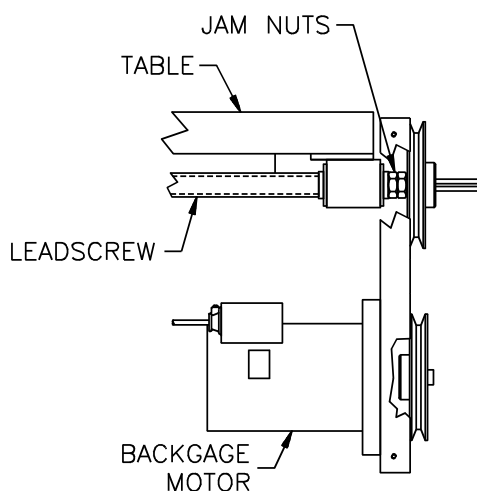

Figure 27 – Jam Nut Location
3. Loosening the lead screw jam nuts, (Figure 27).